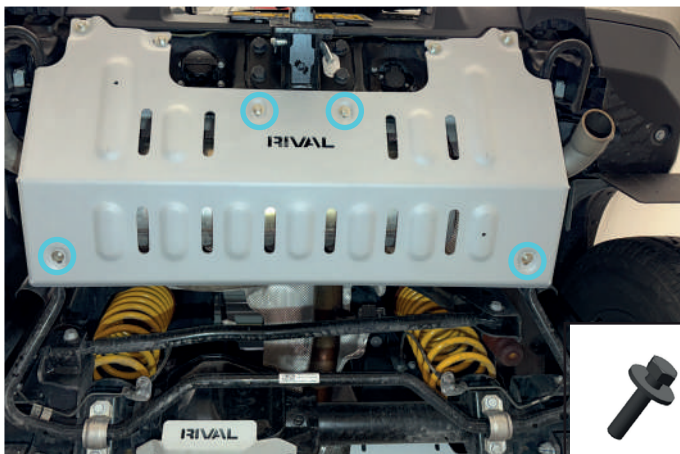

Fig. 3
3. Secure front and middle parts of the muffler skid plate (item 1) using M8x25 bolts and M8 washers (items A,B) as shown in fig.3